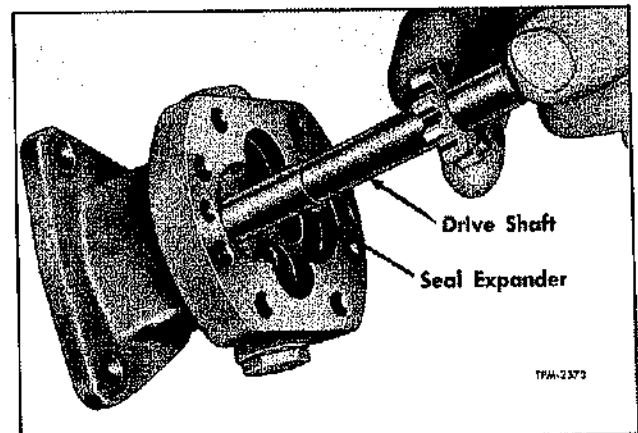

Figure 31—Inserting Fuel Pump Drive Shaft Through Oil Seals
3. Place oil seal pilot over square end of gear drive shaft. Lubricate pilot tool with clean engine oil and insert pilot and shaft carefully into seals. (Fig. 31).